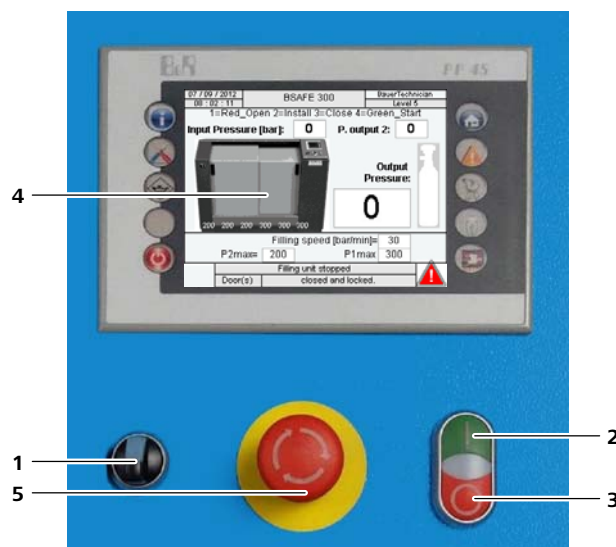

Fig. 28 Control panel
- During the **first start-up**, switch on the B-SAFE ramp using the main switch (1, Fig. 28). The main page is displayed on the screen(4).
- Press the red button "0" (3, Fig. 28) to unlock the doors. The doors can be opened as soon as the corresponding message ("DOORS UNLOCKED") is displayed on the screen.
- Press the green button "I" (2, Fig. 28) to start the filling. The button starts flashing and the message "FILLING..." is displayed on the screen till the final pressure is achieved.
The filling can be stopped at any moment by pressing the red button "0" (3, Fig. 28). Press the green button "I" (2) to resume the filling process. If, in case of a ramp equipped with a proportional valve, a door is open when the filling is stopped, the ramp will depressurise automatically and the filling should resume at 0.
- Press the button "0" (3, Fig. 28) to unlock the doors. The message "DOORS UNLOCKED" is displayed on the screen. For about 5 seconds the doors can be opened manually.
- For maintenance or prolonged storage, switch the B-SAFE 300 ramp off using the main switch (1, Fig. 28).